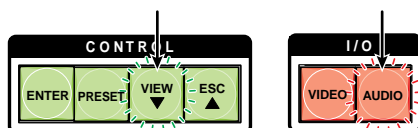

Figure 64. RS-232/RS-422 and Baud Rate Selection
3. **To change a value**, press and release the button that selects the desired value (see figure 64).